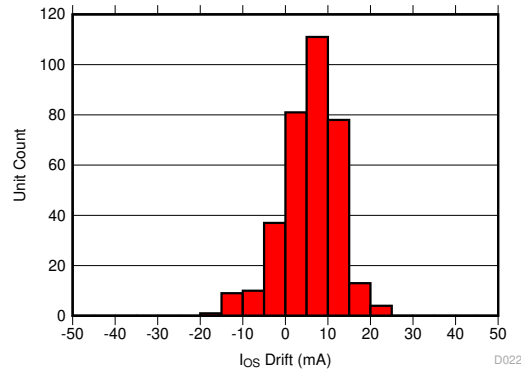

图 9-8. Input-Referred Offset Drift After AEC-Q100 High Temperature Operating Life Stress Test
The same compensation techniques used in the TMCS1101 to reduce temperature drift also greatly reduce lifetime drift due to aging, stress, and environmental conditions. Typical magnetic sensors suffer from up to 2% to 3% of sensitivity drift due to aging at high operating temperatures. The TMCS1101 has greatly improved lifetime drift, as defined in the Electrical Characteristics for total sensitivity error measured after the worst case stress test during a three lot AEC-Q100 qualification. All other stress tests prescribed by an AEC-Q100 qualification caused lower than the specified sensitivity error, and were within the bounds specified within the Electrical Characteristics table. Figure 9-6 shows the total sensitivity error after the worst-case stress test, a Highly Accelerated Stress Test (HAST) at 130°C and 85% relative humidity (RH), while Figure 9-7 and Figure 9-8 show the sensitivity and offset error drift after a 1000 hour, 125°C high temperature operating life stress test as specified by AEC-Q100. This test mimics typical device lifetime operation, and shows the likely device performance variation due to aging is vastly improved compared to typical magnetic sensors.